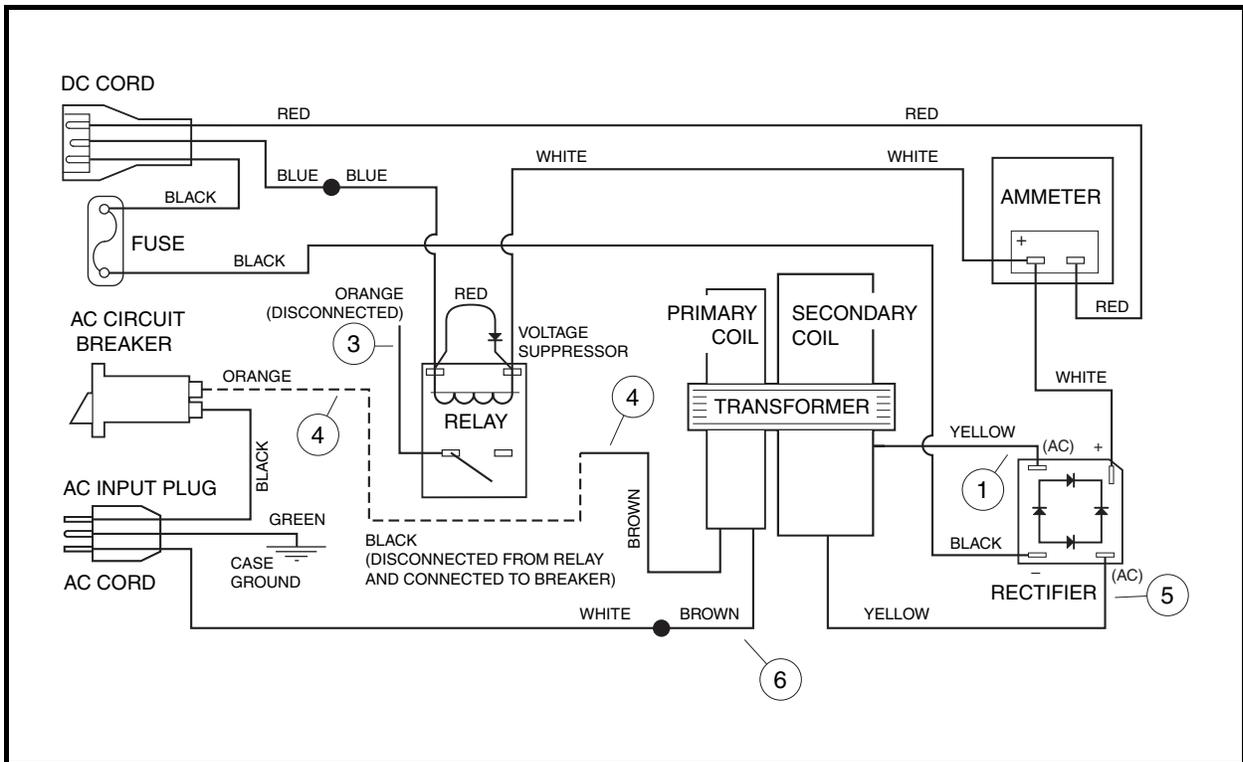

Figure 6-21 GE PowerDrive Charger Wiring Diagram (Relay Bypassed)
- 4.1. To bypass the relay, remove the orange wire (3) from the AC circuit breaker and disconnect the brown wire (4) from the relay. Connect the brown wire (4) to the AC circuit breaker (**Figure 6-21, Page 6-31**). See following **DANGER**.
- Disconnect the transformer wire (4) from AC circuit breaker and connect it to the relay. Connect the short orange wire (3) from the relay to the AC circuit breaker (**Figure 6-21, Page 6-31**). **See following WARNING.**